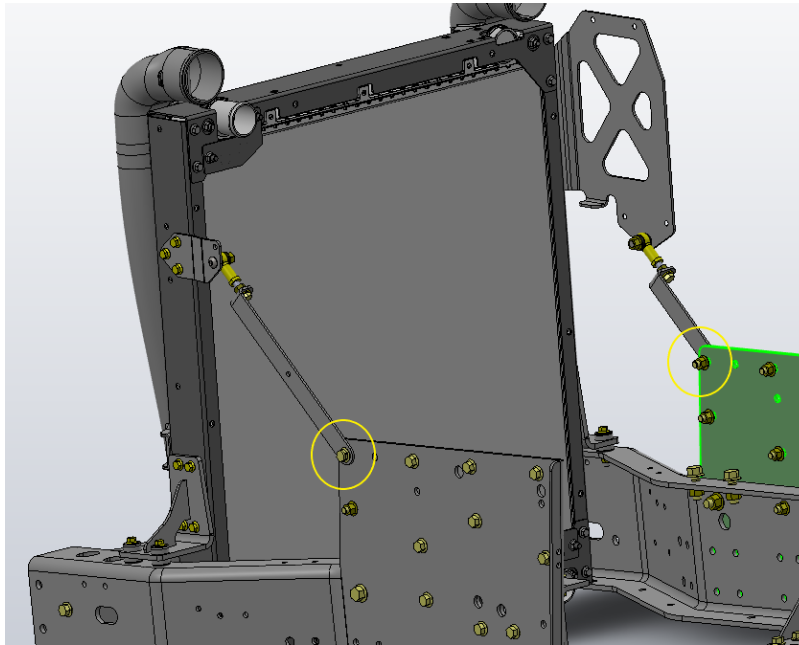

Figure 9.1
- 20) Reconnect radiator stay rod lower bolts and torque the bolt side to 93 ft. lbs. *See Figure 9.1*